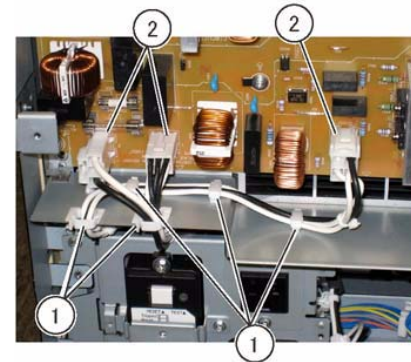

Figure 3 Main LVPS Connectors
5. Disconnect the connectors (x3) of the Main LVPS. (Figure 3)